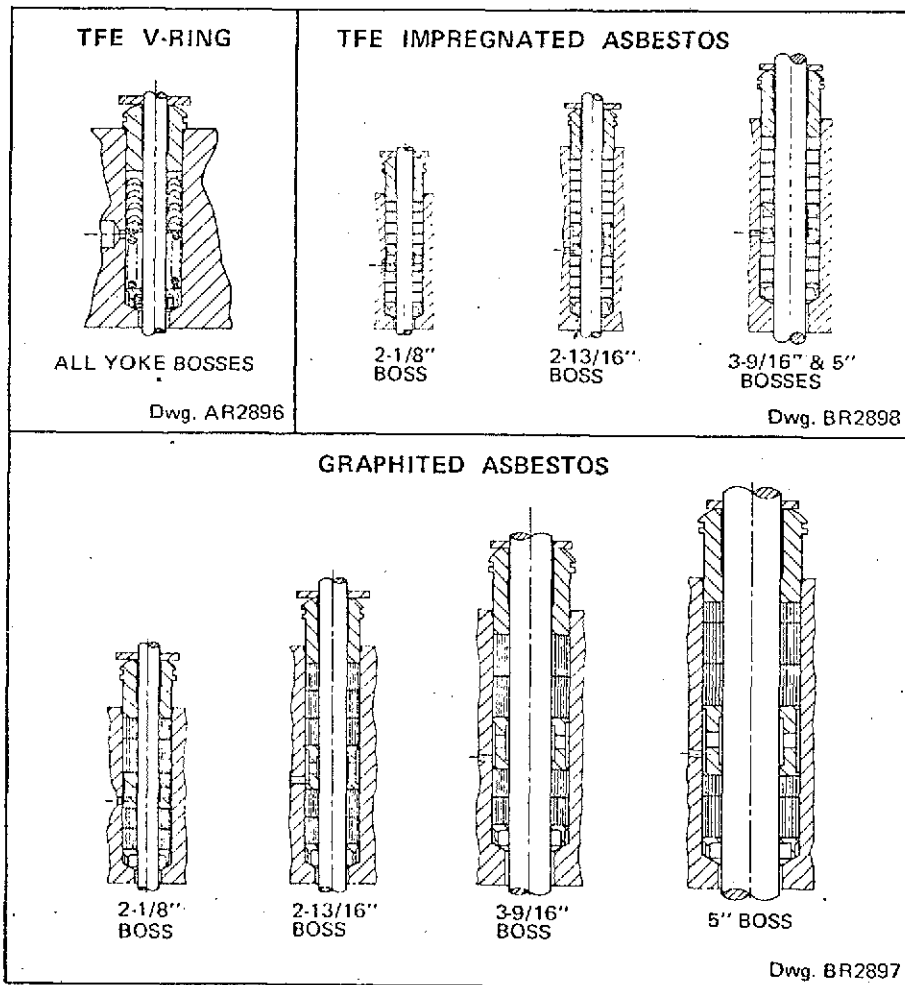

Figure 2. Packing Box Arrangement for Various Packing
C. To Replace TFE V-Ring Packing (Figures 2 & 16)
4. Install new packing and associated parts in the sequence shown in Fig. 2. Be careful not to damage the packing during installation. Replace the packing flange and packing flange nuts. Tighten the nuts as far as they will go.
NOTE: A similar procedure can be followed for TFE impregnated asbestos packing and graphited asbestos packing. Since these packings come in split rings, it is possible to replace them without removing the actuator from the body. The arrangement of packing parts is shown in Figure 2. Packing flange nuts should be tightened only enough to stop leakage.